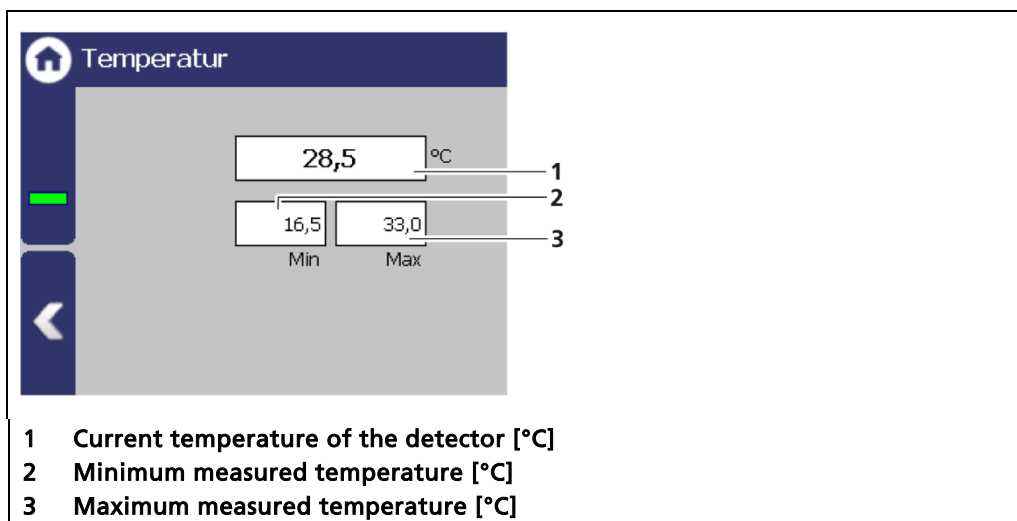

Fig. 69 Temperature display of the detector
The current temperature (Fig. 69, item 1) and extreme values (Fig. 69, item 2, item 3) of the detector is displayed in the submenu "Temperature".